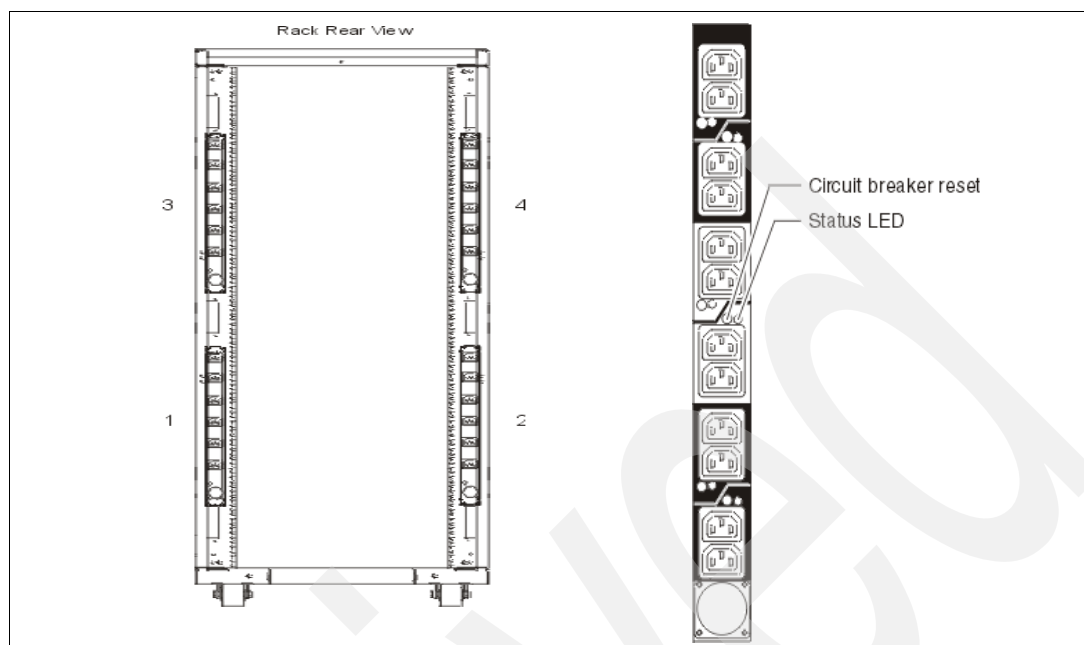

Figure 1-2 PDU placement and PDU view
- ▶ Up to four power distribution units (PDUs) can be mounted in the PDU bays (see Figure 1-2 on page 12), but others can fit inside the rack. See 1.6.6, “The power distribution unit and rack content” on page 11.
Four PDUs can be mounted vertically in the T00 and T42 racks. See Figure 1-2 on page 12 for placement of the four vertically mounted PDUs. In the rear of the rack, two additional PDUs can be installed horizontally in the T00 rack and three in the T42 rack. The four vertical mounting locations will be filled first in the T00 and T42 racks. Mounting PDUs horizontally consumes 1U per PDU and reduces the space available for other racked components. When mounting PDUs horizontally, we recommend that you use fillers in the EIA units occupied by these PDUs to facilitate proper air-flow and ventilation in the rack.